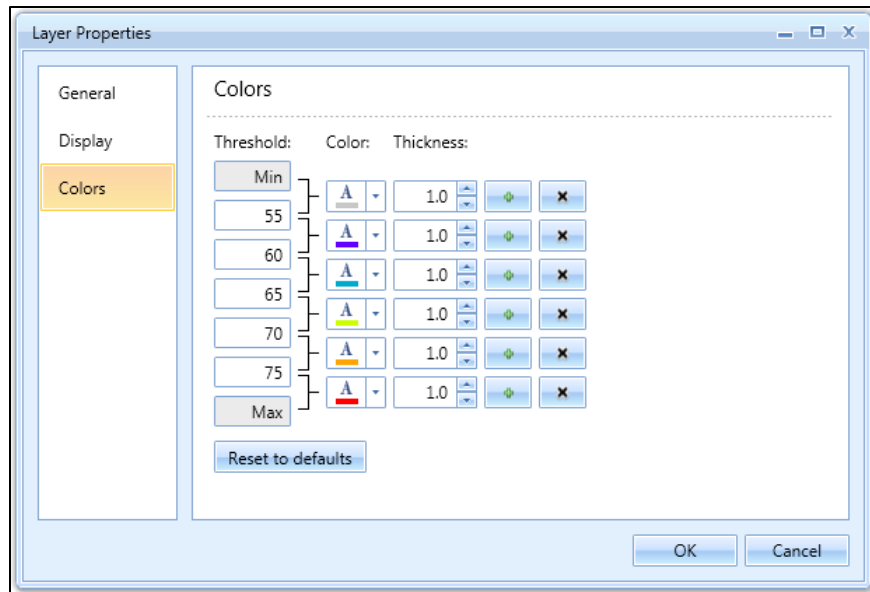

Figure 3-17 Layer Properties Dialog – Colors
5. Click *Colors* (Figure 3-17).